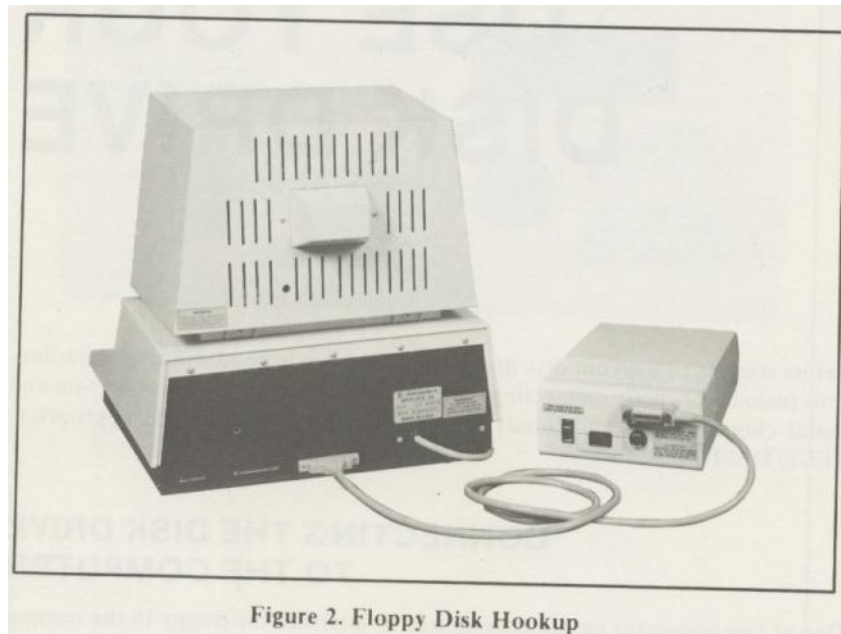

Figure 2. Floppy Disk Hookup
- STEP 2. Place the disk in a convenient location as close as possible to the computer. DO NOT connect the disk drive to a power outlet at this time (see Figure 2).